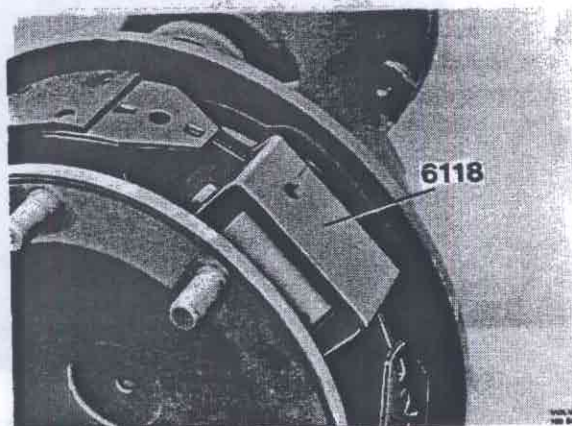

Fig. 51-9. Safety bracket
5. Lever out the shoes a bit at the top and place the protective bracket 6118 on the wheel cylinder, see Fig. 51-9.